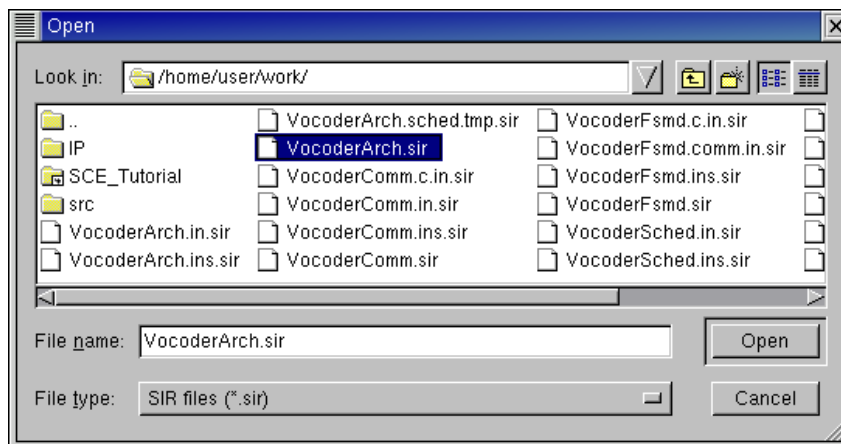

Figure 20: File Open dialog.
- (a) Selecting *Main :: File ⇒ Open* will pop up the File Open dialog in which the user can choose and select an existing file on disk to open and load. The File Open dialog is illustrated in Figure 20.